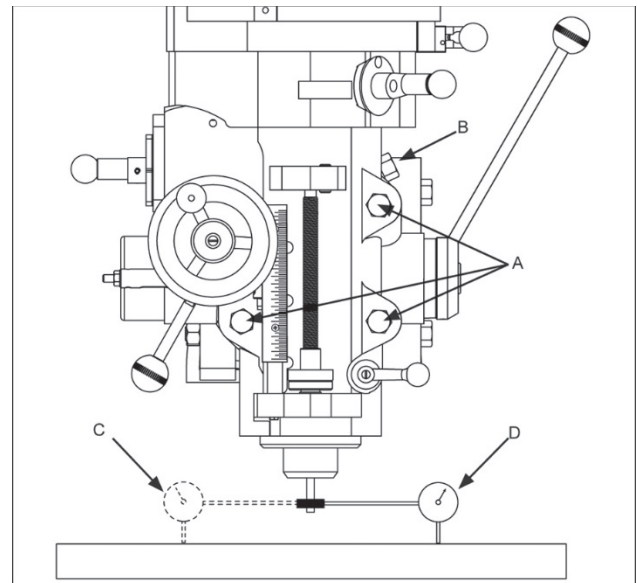

Figure 18
- Turn worm nut (B, Figure 18) to tilt head left or right as required. Use scale on ram adapter to set desired angle.
- Set up a dial indicator in a collet and secure using the draw bar (refer to Figure 18).
- c. Set up a dial indicator in a collet and secure using the draw bar (refer to Figure 18).